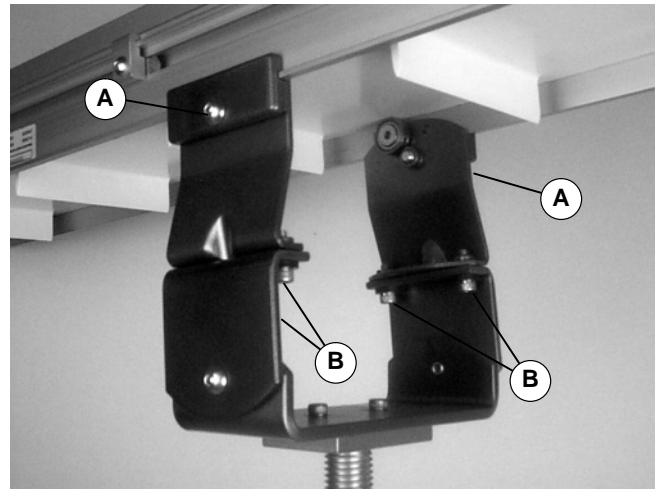

Figure 6
3. Attach clamp plates on each side of conveyor (Figure 6). Secure the 5/16 button head screws (A) with 150 in-lb (17 Nm) torque or the M8 button head screws (A) with 80 in-lb (9 Nm) torque.
4. Mount to support stand. Secure the 1/4 or M6 socket head screws (B) with 80 in-lb (9 Nm) torque. Make sure belt is free to move.